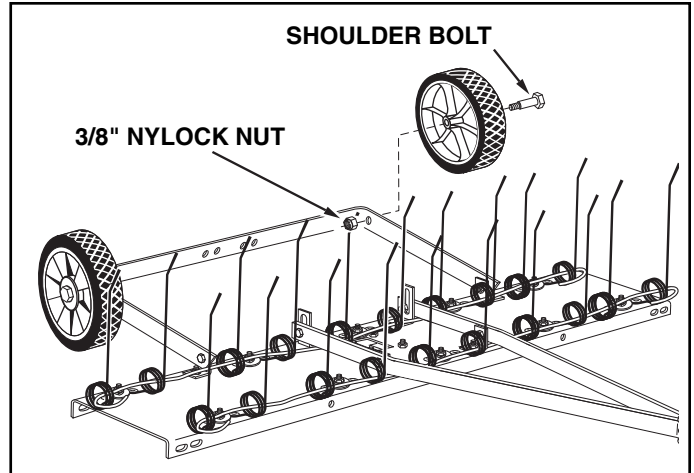

FIGURE 5
- Assemble the wheels to the axle bracket using two shoulder bolts and two 3/8" nylock nuts. **Tighten.** See figure 5.